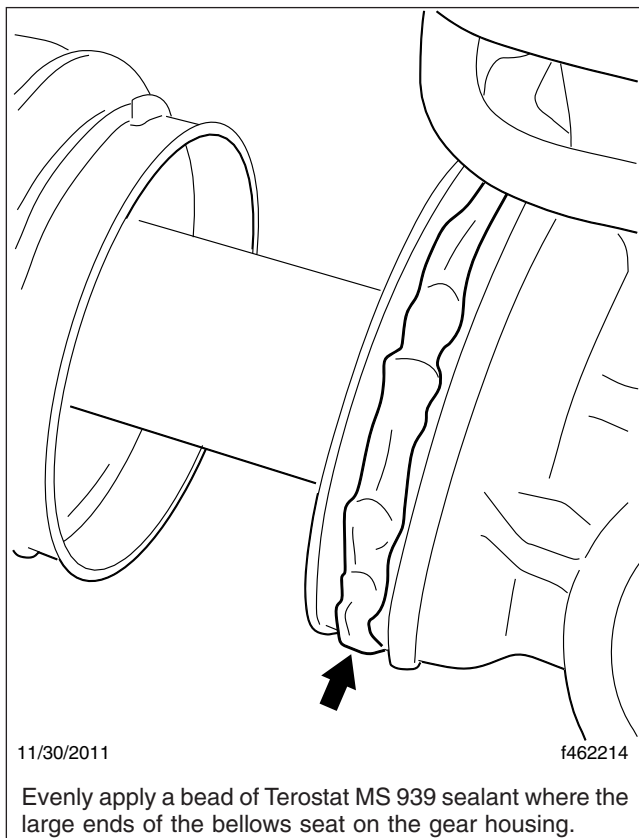

Fig. 8, Terostat MS 939 Sealant Application
11. Evenly apply Terostat MS 939 sealant to the outer diameter of the rack housing where the large ends of the bellows seat on the gear housing. See Fig. 8.